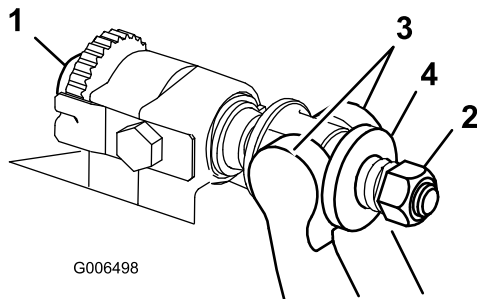

Figure 13
1. Turn the bedbar adjuster screw counterclockwise, to back the bedknife away from the reel (Figure 13).
2. Back out the spring tension nut, until the washer is no longer tensioned against the bedbar (Figure 13).